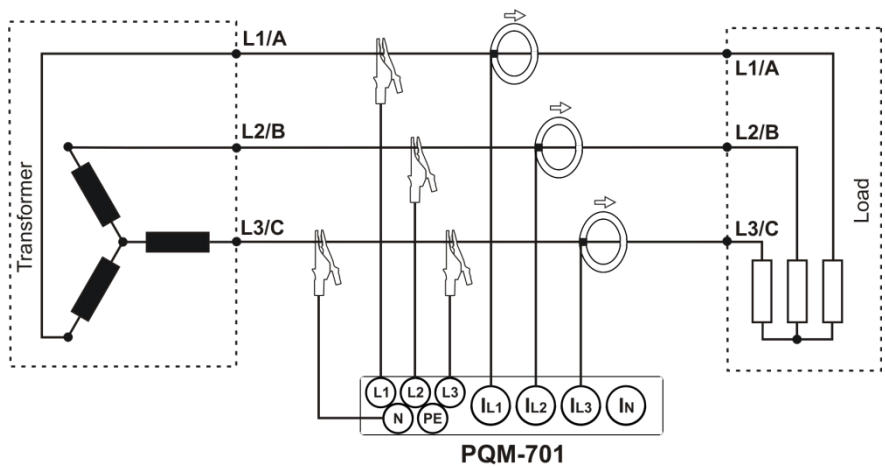
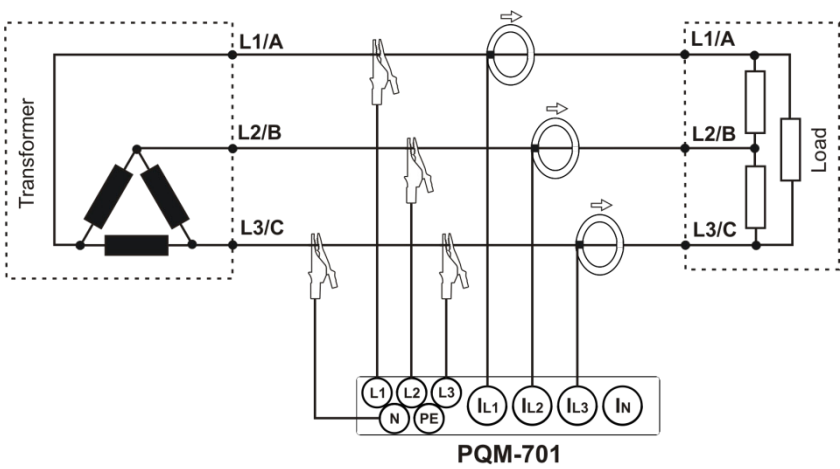
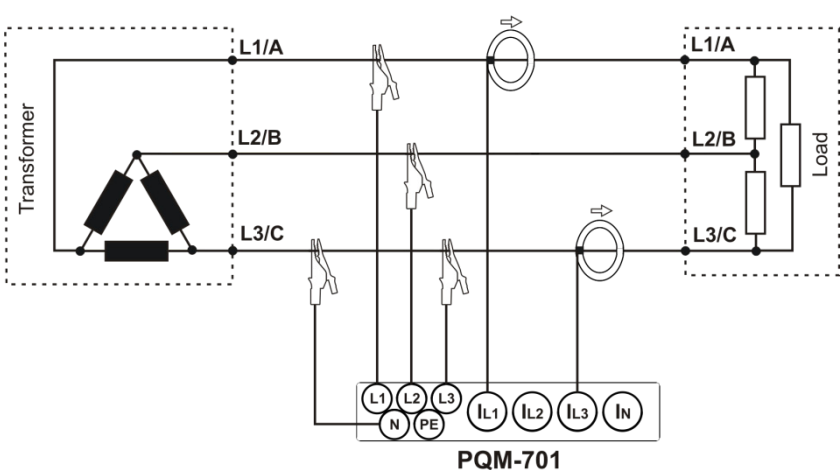
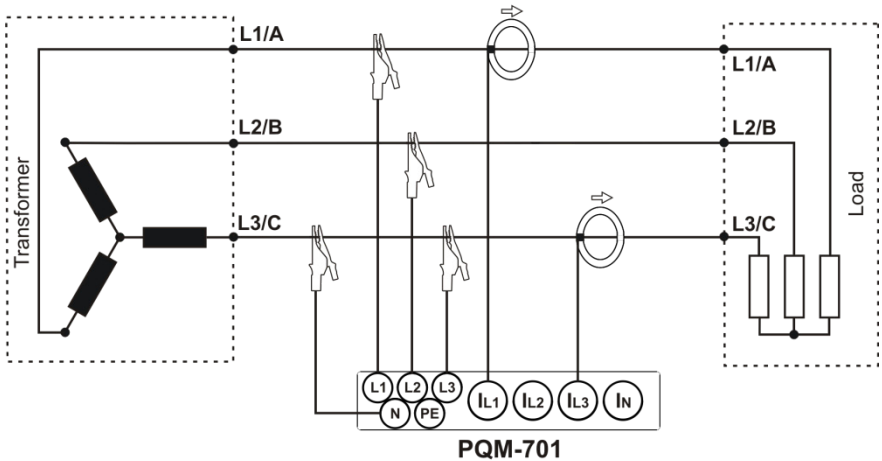

Fig. 6. Connection diagram – three-phase wye system without neutral conductor.
Fig. 7. Connection diagram – three-phase delta system.
Fig. 8. Connection diagram – three-phase delta system (current measurement with Aron's method).
Fig. 9. Connection diagram – three-phase wye system without neutral conductor (current measurement with Aron's method).
- Three-phase 3-wire wye (Fig. 6),
- Three-phase 3-wire delta (Fig. 7).
This method can be used in the delta systems (Fig. 8) and the wye systems without neutral conductor (Fig. 9).
Because the voltage measuring channels are referenced to terminal N, in the systems without neutral conductor, it is necessary to connect (short) the N and L3 analyzer terminals, as shown in Fig. 6, Fig. 7, Fig. 8 and Fig. 9 (three-phase 3-wire wye and delta systems).